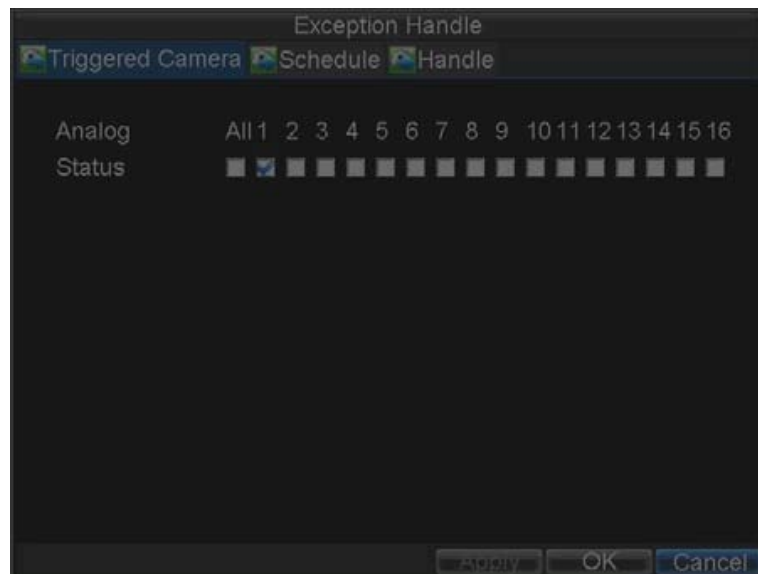

Figure 9.5. Triggered Camera Settings
- 8) Click the *Handle* button to enter the **Exception Handle** menu, shown in Figure 9.5.